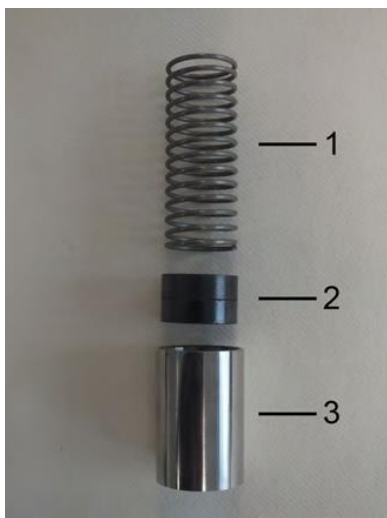

Fig. 47: Spring, magnets and float
12. ► The inner parts of the flow monitor consist of the spring (Fig. 47/1), magnets (Fig. 47/2) and float (Fig. 47/3).